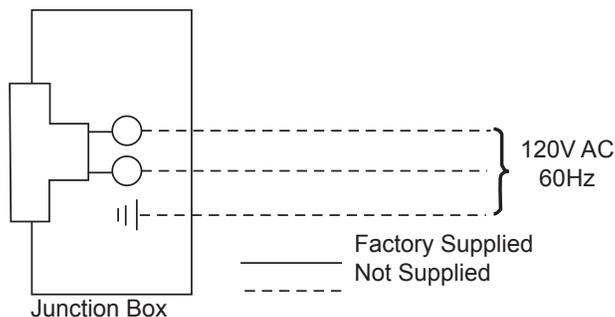

Figure 22. Junction Box Wiring Diagram
3. The junction box cover has a factory installed “romex” style strain relief connector. After connecting the wires, route the wire leads through this connector. Refer to the wiring diagram in Figure 22.